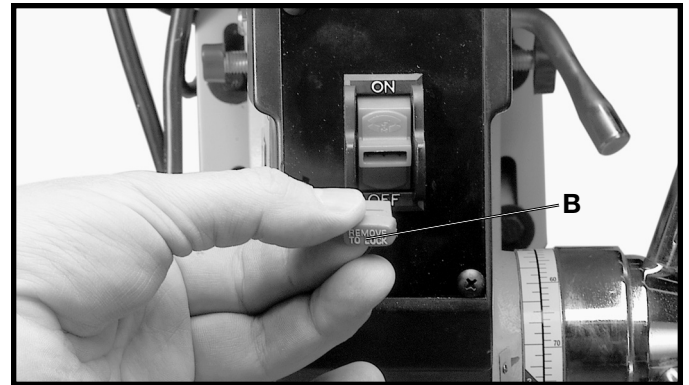

Fig. 21
IMPORTANT: When the machine is not in use, the switch should be locked in the “OFF” position to prevent unauthorized use. This can be done by grasping the switch toggle (B) and pulling it out of the switch, as shown in Fig. 21. With the switch toggle (B) removed, the switch will not operate. However, should the switch toggle be removed while the drill press is operating, the switch can be turned “OFF” once, but cannot be restarted without inserting the switch toggle (B).